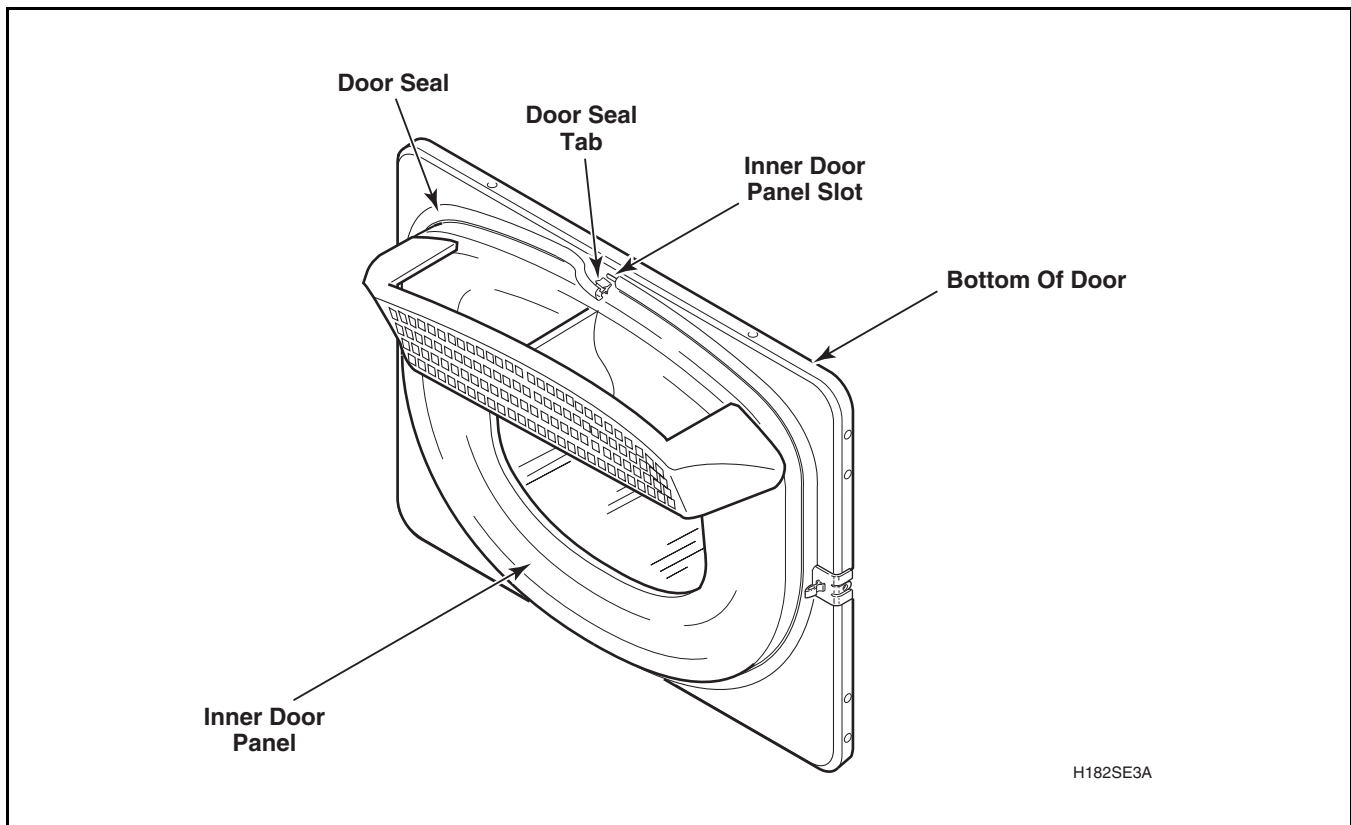

Figure 33
- b. Grasp either end of door seal at bottom of door and remove seal from tabs on inner door panel by gently pulling on the seal. Refer to *Figure 33*.
NOTE: When replacing seal, be sure seal is not stretched or distorted. The tab in the seal should be installed in each slot of the inner door panel, shown in *Figure 33*. The split in the seal must be at the bottom of the door. Make sure that each tab of the seal is fully engaged into the slot.